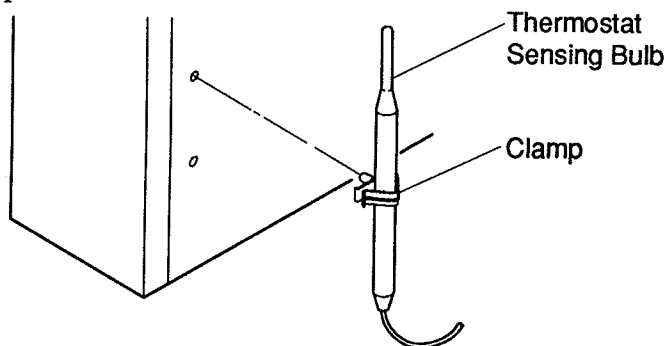

Figure 3 - Attaching Thermostat Sensing Bulb
2. Place clamp on thermostat sensing bulb as shown in Figure 3. Clamp is provided in hardware package. Thermostat sensing bulb must be located on outside edge of heater.
3. Snap clamp into upper mounting hole as shown in Figure 3. Mounting hole is located on lower left edge on back of heater. Make sure the thermostat sensing bulb is pointing up.